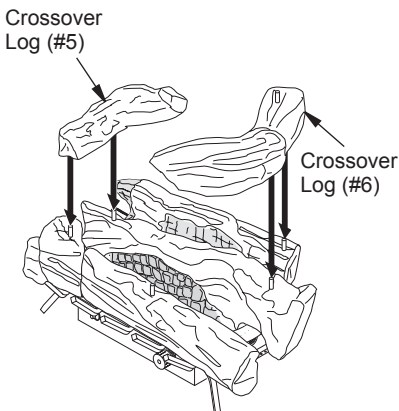

Figure 24 - Installing Crossover Logs (#5 and #6)
- Place crossover log (#5) onto the pin (left) on middle log (#1) and onto the pin on front left log (#3) (see Figure 24).
- Place crossover log #6 onto the pin (right) on middle log (#1) and onto the pin on back log (#2) (see Figure 24).